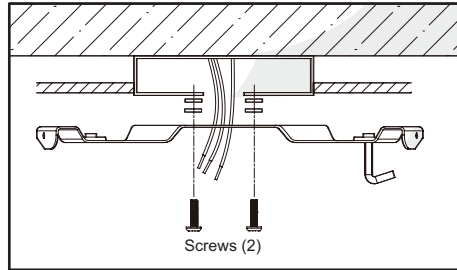

Figure 4
1. Securely attach the mounting plate to the outlet box using the two screws supplied with the outlet box. Pull the 120-volt supply wires (the black, white and ground wires) out of the outlet box and through the hole in the mounting plate and lay them to the side. (Figure 4)